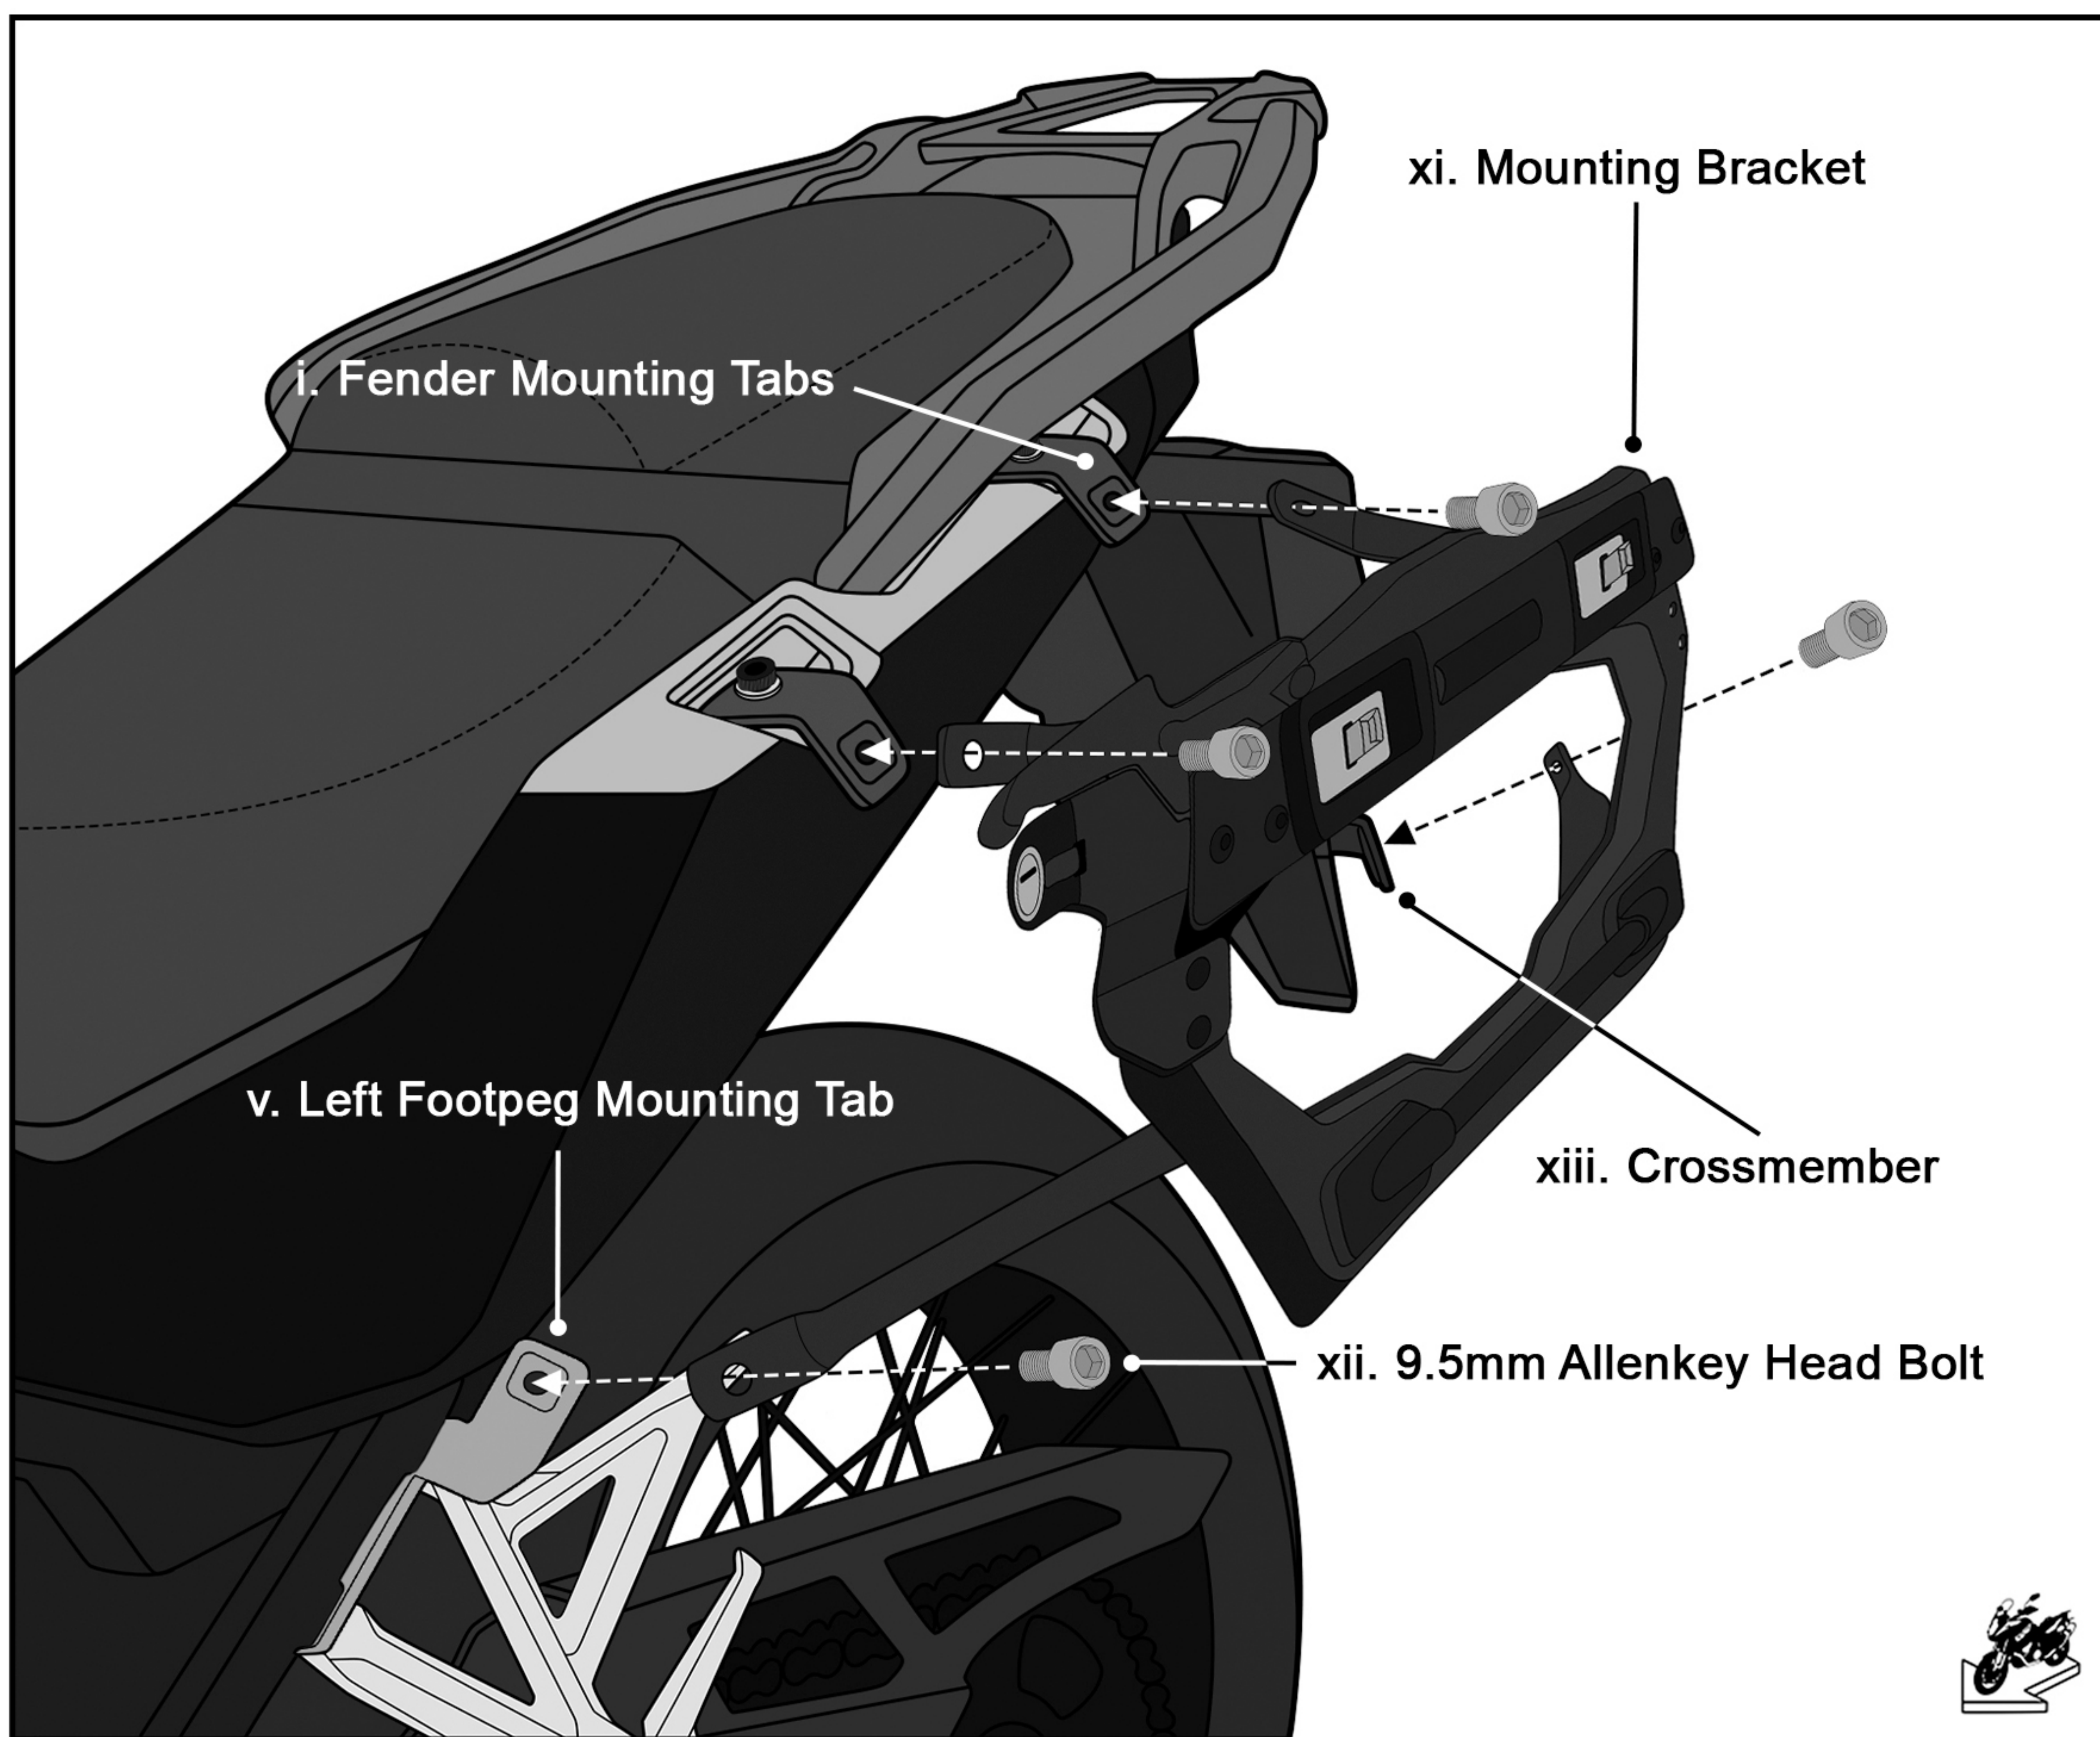

Fig 7. Attaching the mounting bracket to the mounting tabs
Now you can attach both the mounting brackets(XI) to all the mounting tabs using the 9.5mm Allenkey Head Bolts(XII) and secure them with locktite. See Fig 7.